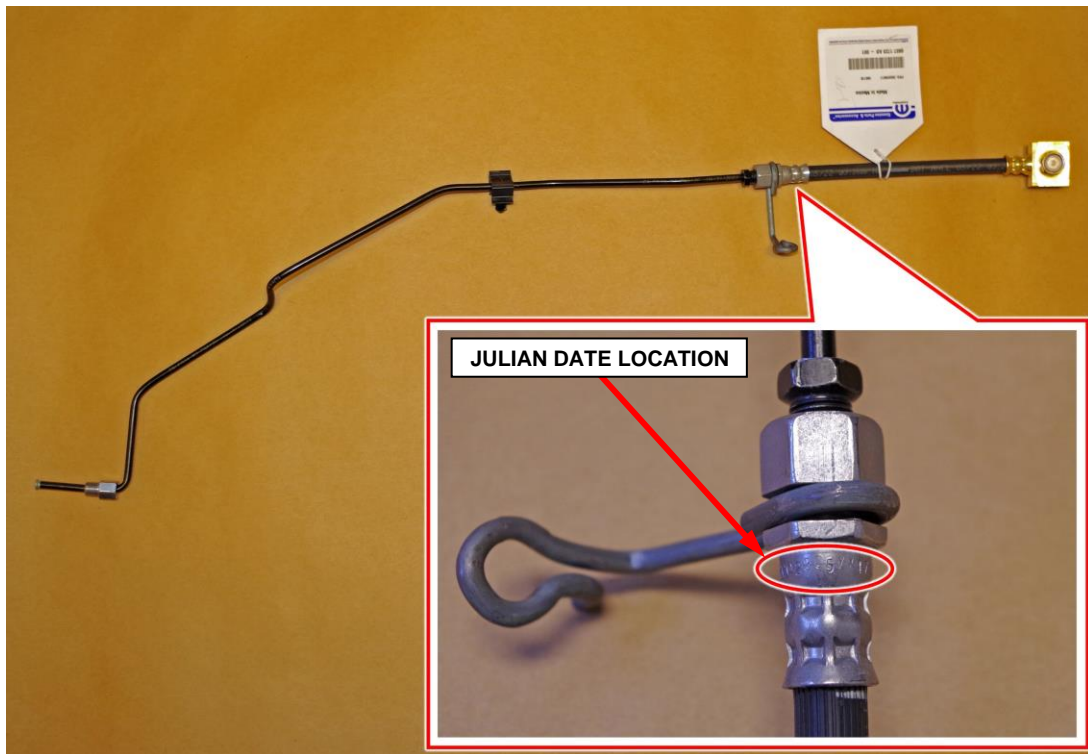

Figure 1 – Julian Date Code Location
1. Locate the Julian Data Code stamped on the hose coupler (Figure 1).